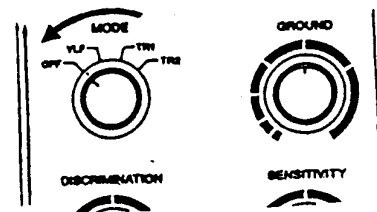

Figure 6
1. If the Metal Detector is on, turn MODE to OFF (see Figure 6).